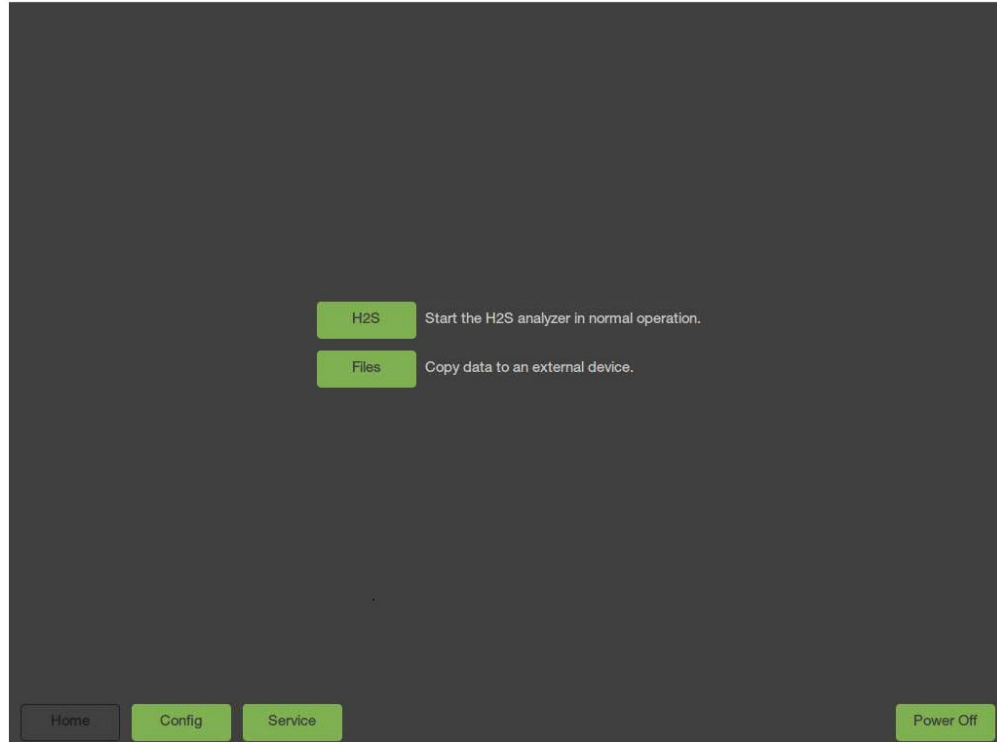

Figure 8: Opening Screen
7. Connect the vacuum hose between the external vacuum port and the external vacuum pump. See Figure 8. Hand tighten the nut, then make an additional $\frac{1}{4}$ turn with an $\frac{11}{16}$ " wrench (not supplied).